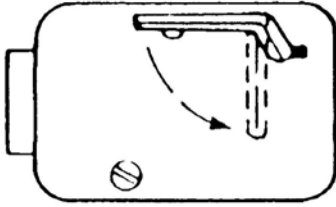

Figure 2. Turn the change key one-quarter turn counterclockwise to allow a new combination to be entered.
3. With the last number set at the changing index, hold the dial securely and insert the change key in the keyhole in the back of the lock. Make sure the wing is entirely inside the lock and comes to a positive stop (see Figure 2) before turning the key.
4. Turn key one-quarter turn to the **LEFT** (see Figure 2). With the change key in this position, set the new combination as follows: